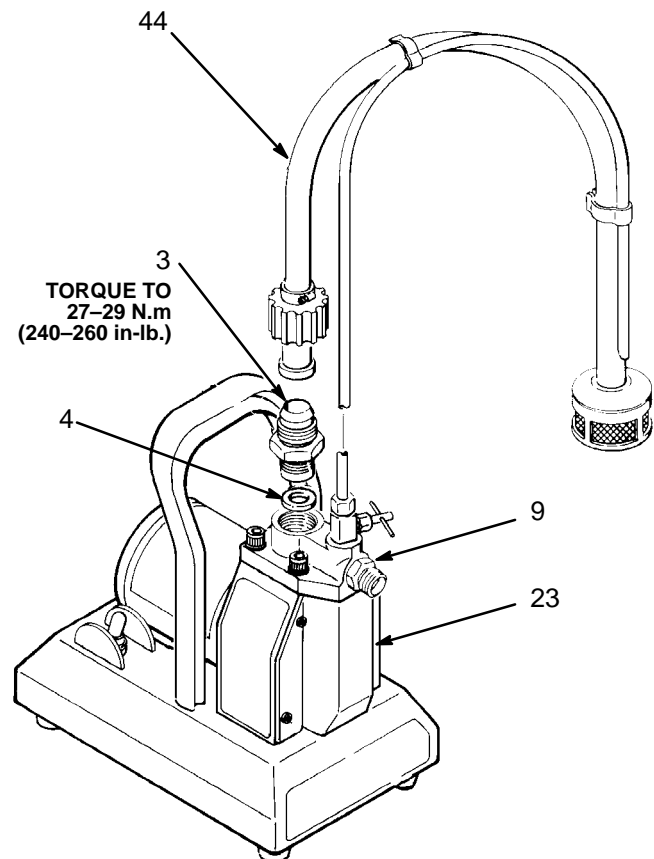

Fig 13
2. Remove the front cover (23). See Fig 13.
Inlet Valve (See Fig 13)